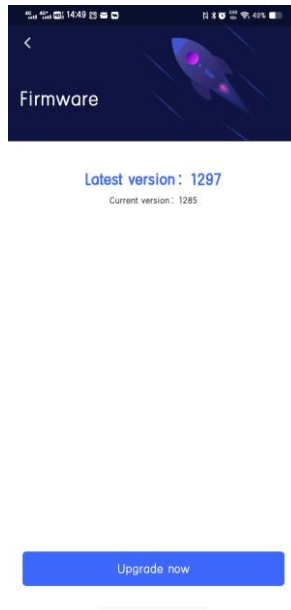

Figure 34 Firmware upgrade
③ After the download is completed, reconnect the WiFi of SLAM100 device, exit the firmware upgrade page, and click the device on the home page again to enter the device standby page.
③ Click "Settings" in the upper right corner of the standby page, enter the firmware upgrade page, click "Firmware Upgrade" and then click " Upgrade now" (Figure 34). Please wait patiently for the firmware upgrade package to be transmitted to slam100 device. Please do not operate your mobile phone or slam100 device at this time.
⑤ After the transmission is completed, click OK. At this time, please wait for 35s before manually restarting the device. After restarting the device, wait for the white light of the device indicator to blink and turn green. At this time, the firmware update is successful, and the device can be used normally.